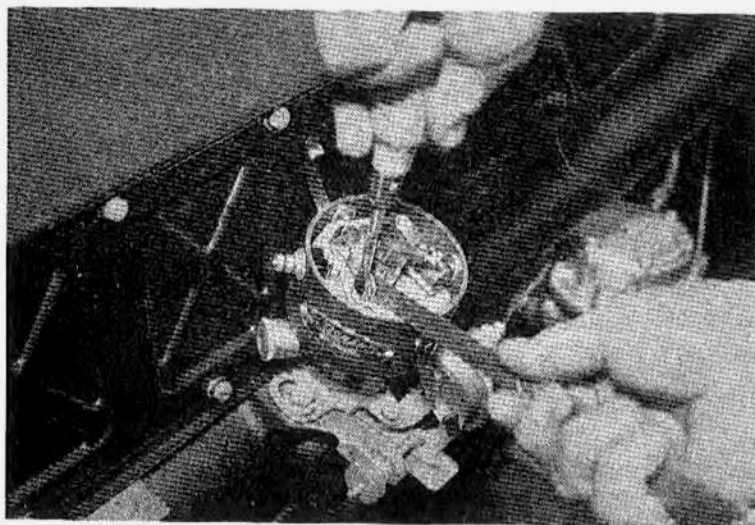

Figure 46 – Adjusting Distributor Points
(1) Remove the ignition coil wire and spark plug wires from the distributor cap and examine the terminals for corrosion. The wires should be checked for damaged insulation and oil soaked condition.
(2) Remove the distributor cap. Check the cap and distributor rotor for cracks or burned or pitted contacts.
(3) Check the distributor automatic advance mechanism by turning the distributor cam in a clockwise direction as far as possible, then release the cam and see if the springs return it to its retarded position. If the cam does not return readily, the distributor must be disassembled and the cause of the trouble corrected. See "engine electrical" for "Distributor Repair"
(4) Examine the distributor points. Dirty points should be cleaned, and pitted or worn points should be replaced. Check the points for alignment and align them if necessary.
(5) Crank the engine until the distributor point cam follower rests on the peak of the cam. Adjust the point gap (Fig. 46) using a feeler gage. This operation must be performed very accurately because it affects the point dwell or length of time the points remain closed in operation and, in turn, ignition coil performance.